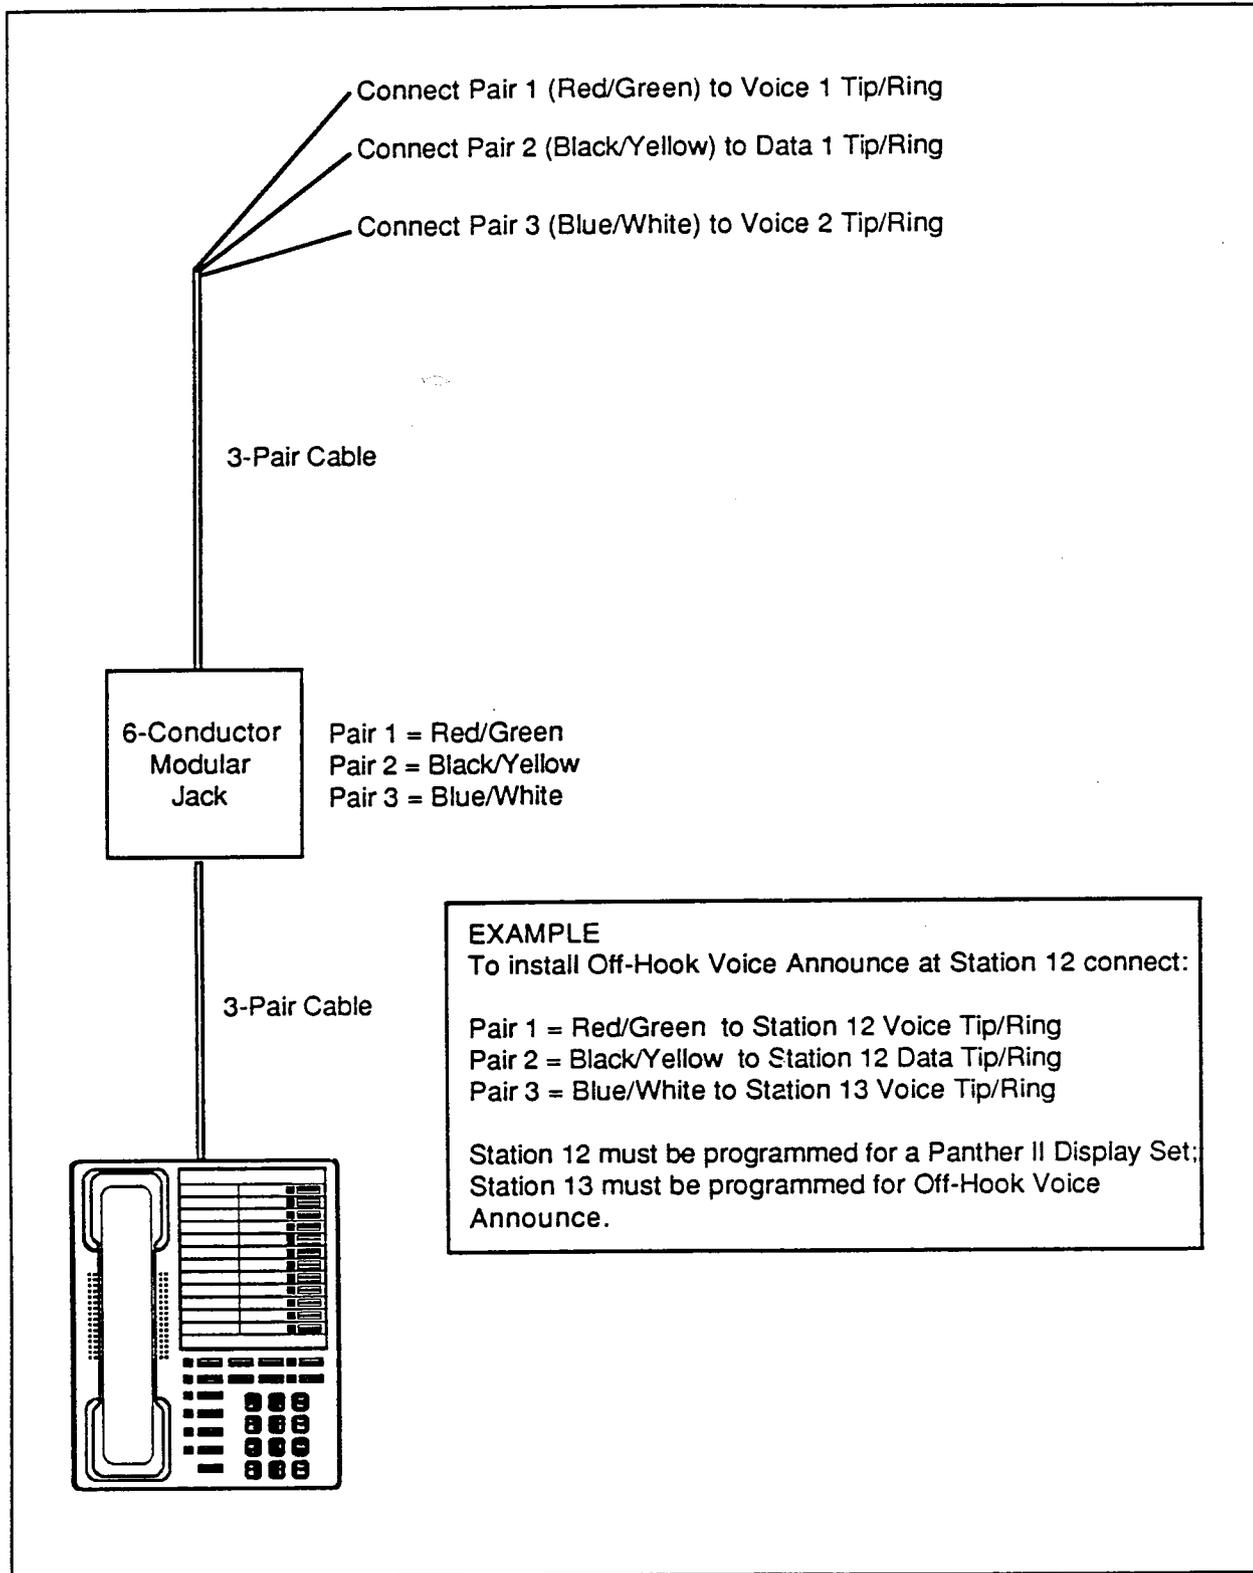

Figure 6-9 Installing 'Off-Hook Voice Announce'
6.09 Installation of a Panther telephone set simply requires the set to be connected, through the DBU4 (4-conductor mod-to-mod cord) supplied with the set, to the previously-installed RJ14C jack. *Note: If the 'Off-Hook Voice Announce' feature is used on the Panther II Display Set, a 6-conductor cable and jack is required for that station. Remember that this feature occupies two station ports; for example, if Station 12 has 'Off-Hook Voice Announce', Station 13 will be unavailable for use as a station. Figure 6-9 shows how to install 'Off-Hook Voice Announce' on a Panther II Display Set.*